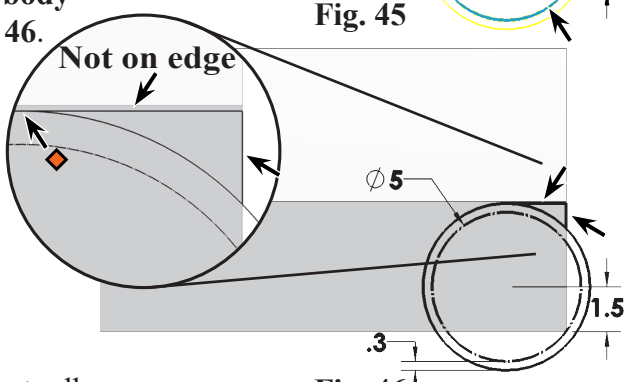

Fig. 46
Step 10. Click **Line**  (L) on the Sketch toolbar.
Step 11. Sketch a **horizontal line from offset circle top quadrant point**  **across to rear edge of body and down along edge to offset circle**, Fig. 46.